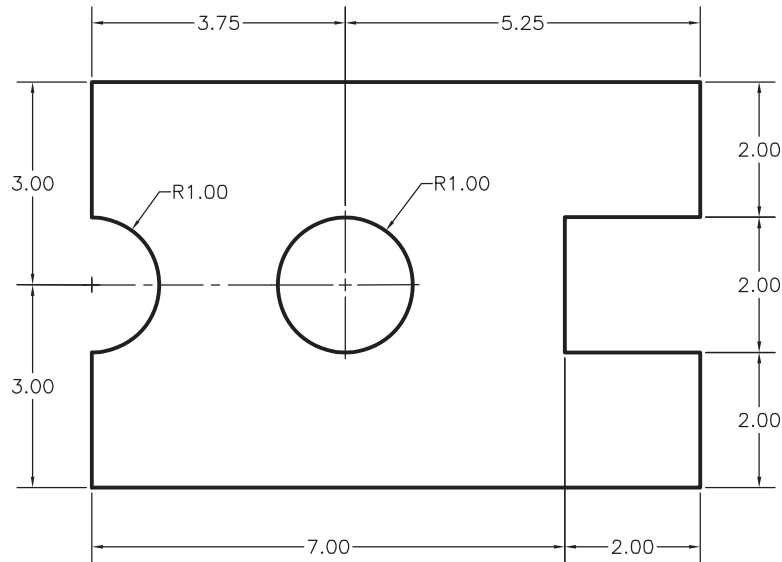

Fig. 7-16
1. Draw the shim shown in Fig. 7-16 with dynamic input off. Decide on the best method of coordinate entry for each point, based on the dimensions shown and your knowledge of the various methods. Position the drawing so that the lower left corner of the shim is at absolute coordinates **1,1**. Do not include the dimensions. Save the drawing as **ch7-shim.dwg**.